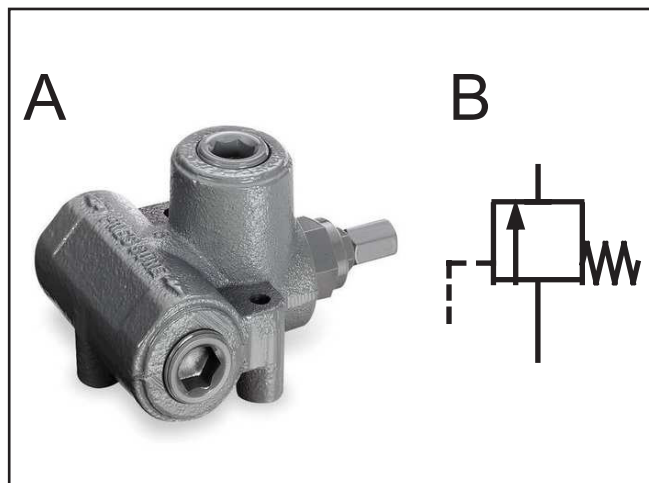

Figure 8
A relief valve (A) (Figure 8), is a normally closed valve with one port connected to the pressure line and the other line connected to the reservoir. The flow direction arrow points away from the pressure line and toward the reservoir. When pressure in the system overcomes the spring pressure, fluid is directed through the valve to the reservoir. The schematic symbol for a relief valve is shown at (B) (Figure 8).